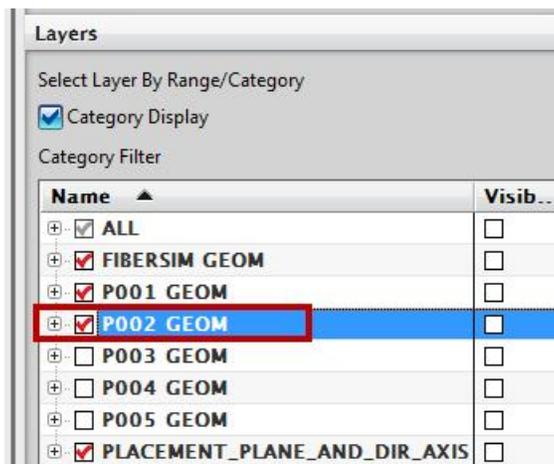

Figure 4–3
5. Make sure that the option for Category Display is turned on, and turn on the **P002 GEOM** category as shown in Figure 4–3.